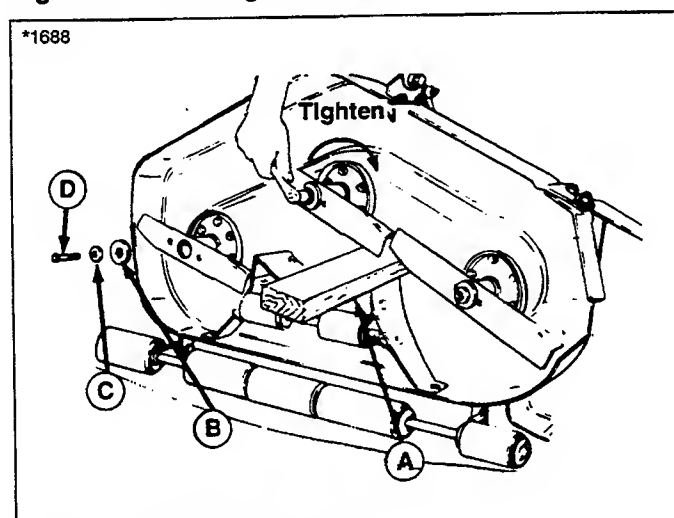

Figure 19. Installing The Blade
6. Reinstall each blade with the tabs pointing up toward deck as shown in figure 19. Secure with a cap screw (D), cup washer (C) and spline washer (B). Use a wooden block to prevent blade rotation and torque cap screws to 50-70 ft.lbs. (67-95 Nm.).